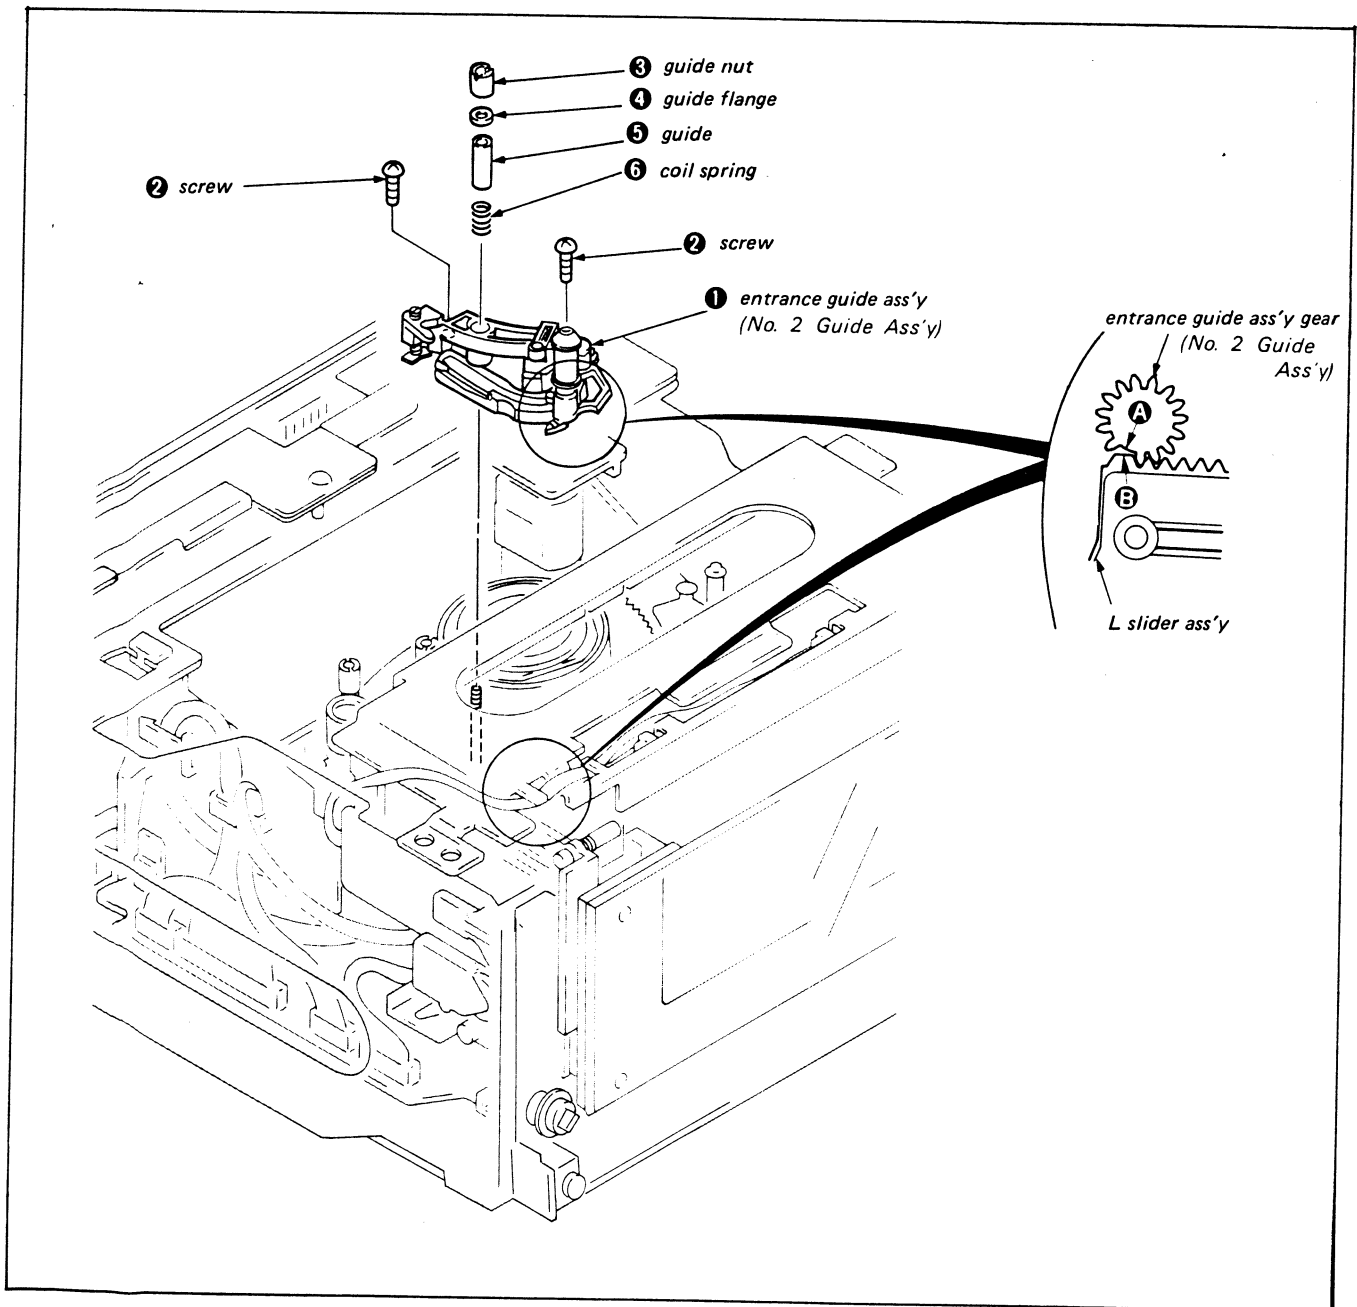

Fig. 3-25.
- 1) Turn the rotary upper drum counterclockwise and separate the head portion from the entrance guide assembly ①.
- 2) Remove the two screws ②.
- 3) Remove No. 3 guide guide nut ③, and remove guide flange ④, guide ⑤ and coil spring ⑥.
- 4) Remove the entrance guide assembly ①. (Fig. 3-25)
- 2) Mount the coil spring ⑥, guide ⑤ and guide flange ④ in that order, then temporarily tighten the guide nut ③.
- 3) Tighten the two screws ②. (Fig. 3-25)